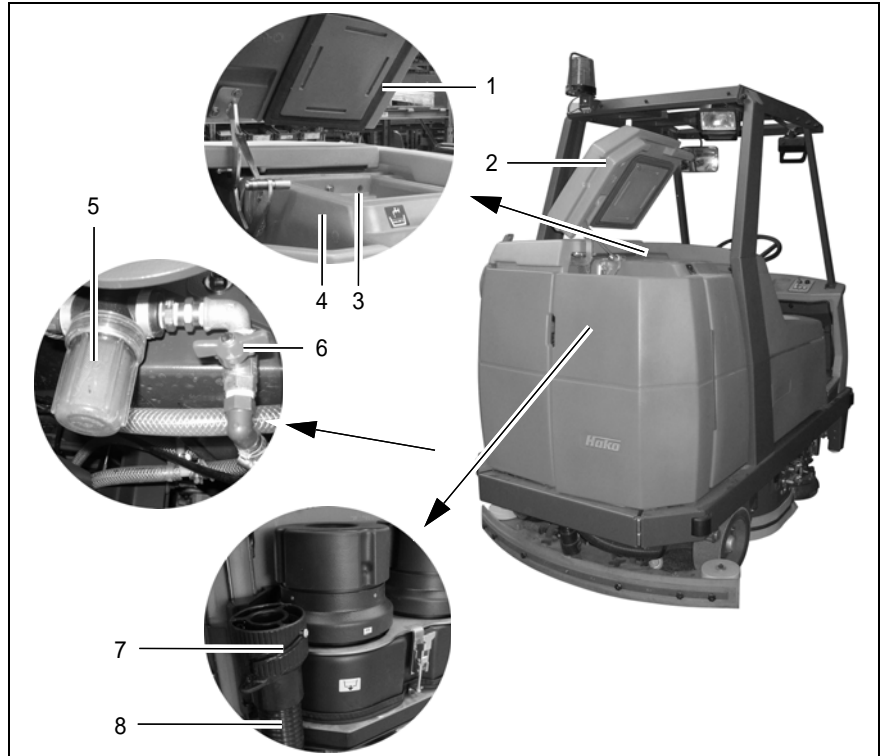

Fig. 25
Fill the solution tank (Fig. 25/4) with fresh water and cleaning agent before starting with the work, also refer to Section 3.1.4.
2. Open the tank cap (Fig. 25/2) and lock in place.
If the vehicle is to be left unused for a longer period, the solution tank (Fig. 25/4) should be emptied.
1. Park the vehicle so that the solution draining hose (Fig. 25/8) can be positioned over a drain in the floor.
3. Detach the solution draining hose (Fig. 25/8) and lower it slowly.
4. Unscrew the screw cap (Fig. 25/7). The quantity drained can be regulated by turning the screw cap and pivoting the cap open fully, if necessary.
- The screw cap (Fig. 25/7) at the end of the draining hose (Fig. 25/8) should be cleaned at regular intervals.
The solution feed is equipped with a filter (Fig. 25/5) which must be cleaned if dirt appears on the container. This is located on the left-hand side of the vehicle at the height of the brushes behind the side panel.
2. Close the ball cock (Fig. 25/6) to prevent solution being supplied from the tank.